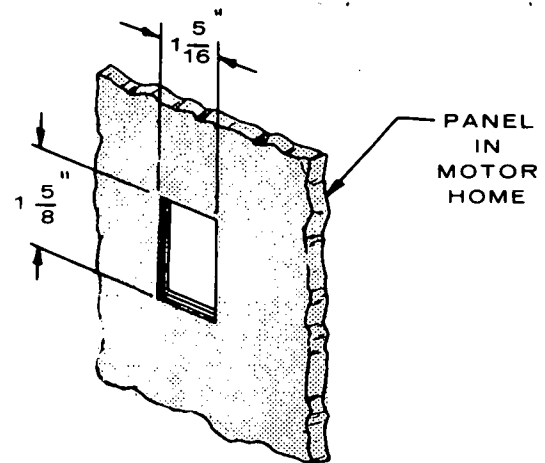

FIGURE 9. MOTOR HOME CUTOUT
1. Select switch location. Using Figure 9 as a guide, drill screw holes and cut holes in RV panel for remote switch.